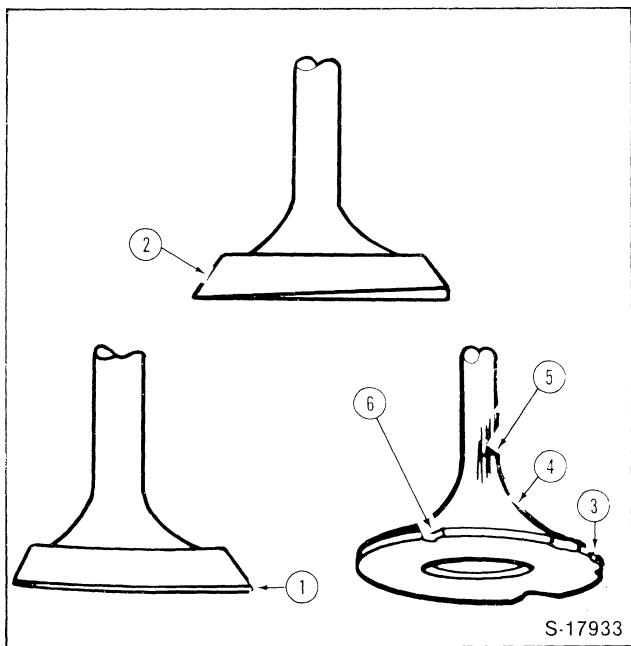

Figure 18
1. Clean all deposits from the valves using a soft wire brush. Inspect the condition of the valve and discard any that are badly burned, cracked or bent, Figure 18.